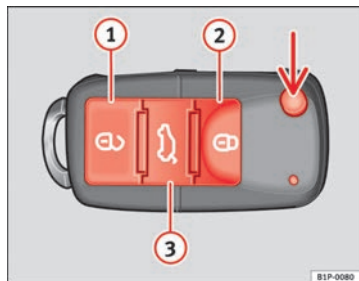

Fig. 45 Assignment of buttons on the remote control key
- Press the  button **2** ⇒ fig. 45 on the remote control.
- Press the  button **1** ⇒ fig. 45 on the remote control.